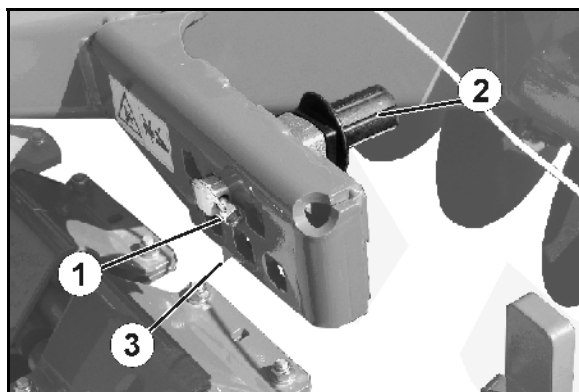

Fig. 20
For this purpose, 6 insertion holes are available (Fig. 20).
3. Release the clip pin (Fig. 20/3).
4. Fit the eccentric pin (Fig. 20/4) into the required insertion hole.
- A preferential insertion hole is marked with an arrow (Fig. 20/3).